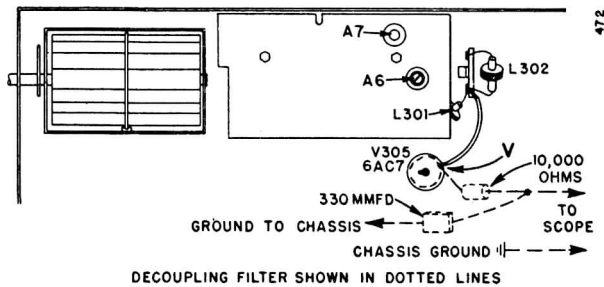

Figure 29. Bottom View Showing Test Point "V".
- Connect oscilloscope* between point "V" and chassis ground through a decoupling filter; see fig. 29. Keep leads away from receiver.
After becoming familiar with alignment procedure, some servicemen simplify subsequent alignment of sets by merely using the essential alignment data given in figures 29 and 30.
- e. Connect oscilloscope between point "V" and chassis ground through a decoupling filter (see figure 29). Keep oscilloscope leads away from chassis.